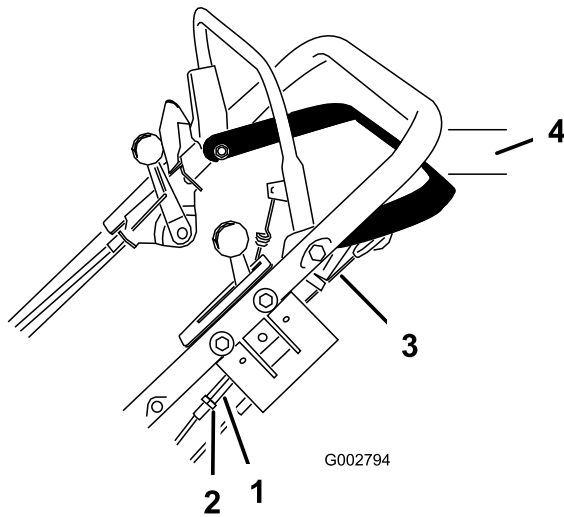

Figure 28
1. Loosen the nut that secures the turnbuckle (Figure 28).
- Turn the turnbuckle until you remove the slack in the exposed cable (Figure 28).